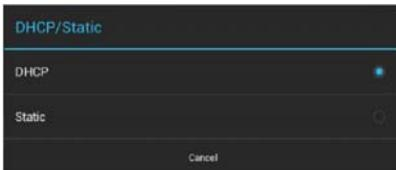

FIG. 53 DHCP/Static window
1. Press DHCP/Static to access the DHCP/Static options window (FIG. 53):